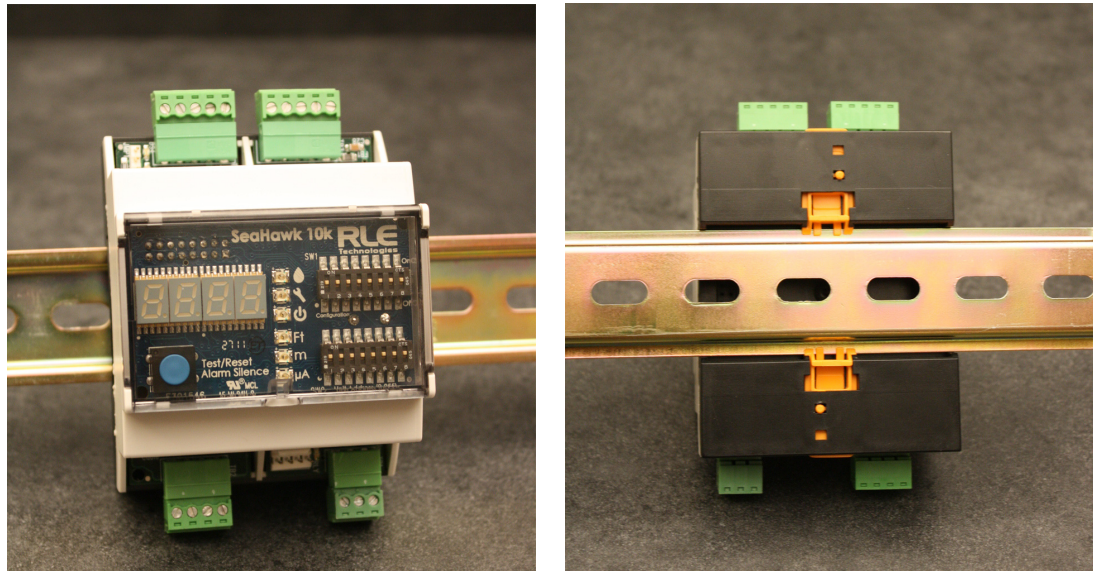

Figure 2.2 Mount the SeaHawk 10K
- Figure 2.2 Mount the SeaHawk 10K. 14